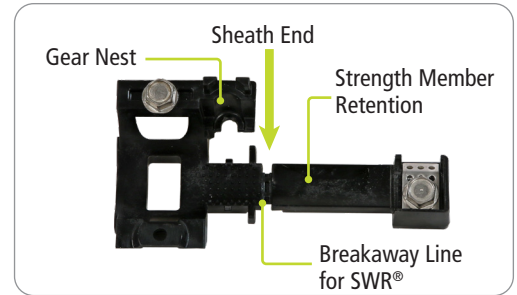

Figure 11
#### Parts of the CAU (Figure 11 and 12)
1. Remove by hand, the strength member retention from the CAU at the breakaway line by hand. (Figure 11)